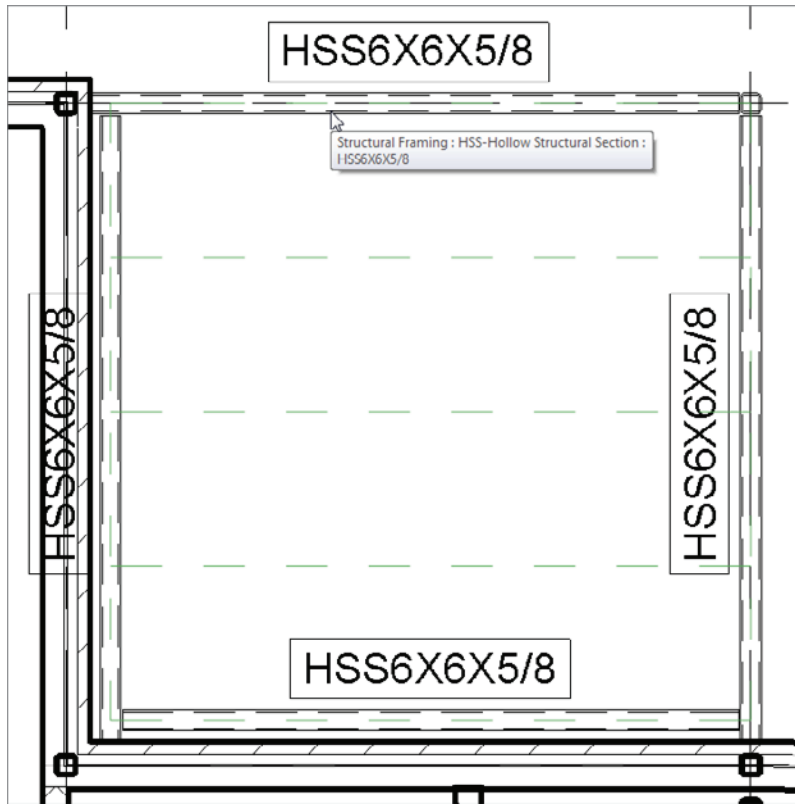

FIGURE 8.42 Getting ready to place the framing system
6. Hover your cursor over the top, horizontal beam, as shown in Figure 8.42. Notice the green dashed lines? This is where your beams will be placed.